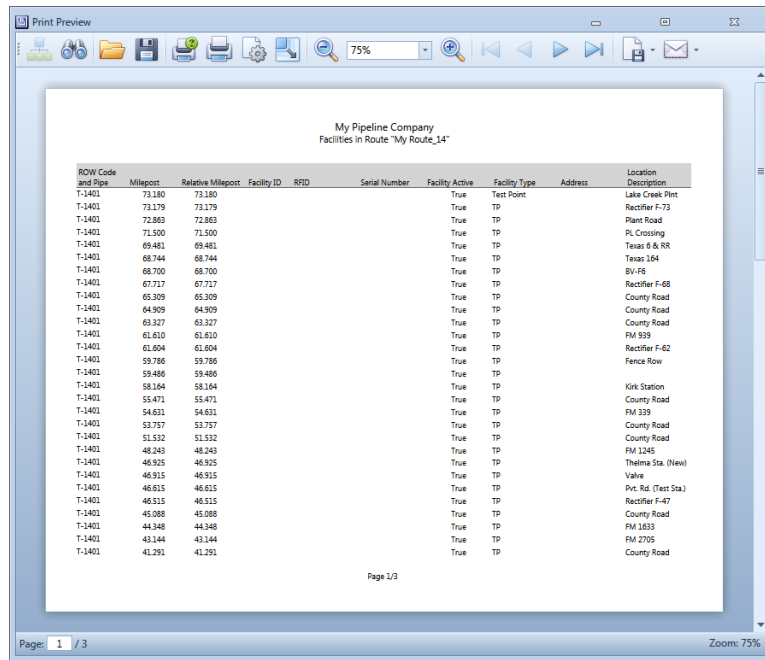

Figure 8-73. Print Preview
Selected facilities are those included in the route. These facilities are also listed in the *Facilities in Route* grid of the *Define Routes* window (Figure 8-73, page 448). Available facilities are linked to the current ROW selection, but are *not* included in the route. Available facilities are listed in the *Facilities Available* grid of the *Define Routes* window.
- 3 To view selected facilities in a *Print Preview* window (Figure 8-73), click the  **Selected Facilities** button in the *Facilities in Route* grid.